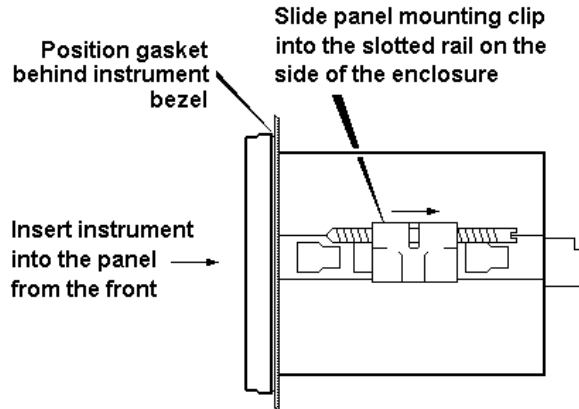

Fig 5 Fitting panel mounting clips
- b. Fix two panel mounting clips to opposite sides of the instrument and tighten until the indicator is secure as shown in Fig 5. Four clips are required to achieve an IP65 between a BA328C and the instrument panel.